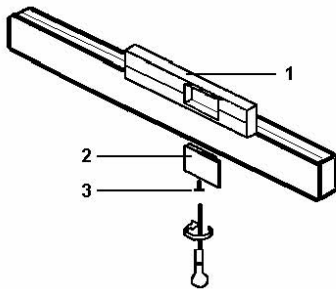

Fig.2
3. Remove the screw (3) from the back plate (1) and remove the terminal block cover (2) (Fig.2)
4. Rotate the back plate (1) backwards through 90° (Fig.2)